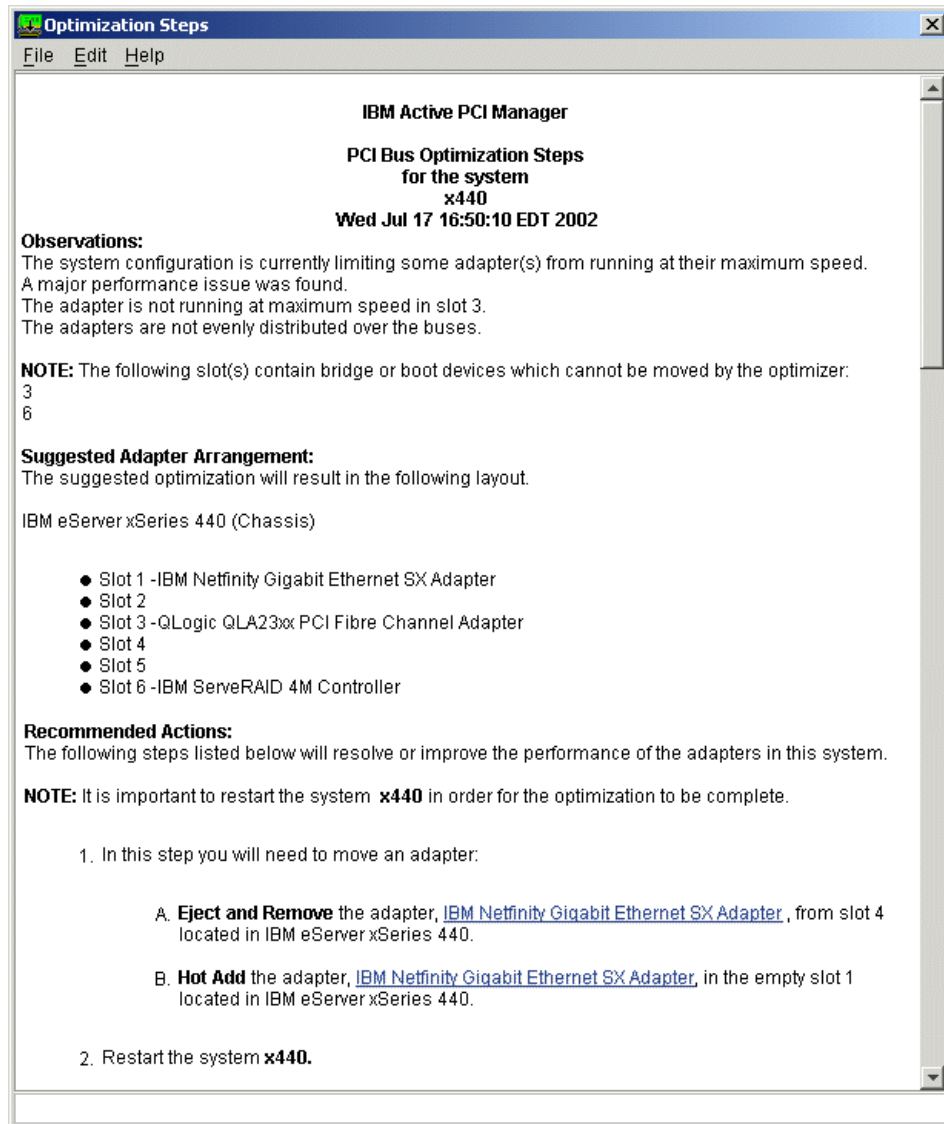

Figure 5-17 Performance analysis
To analyze the adapter configuration, click **Tools -> Analyze**. Once the analysis is complete, the Optimization Steps window appears, as shown in Figure 5-17 on page 146. It includes three sections:
Tip: The two links in Figure 5-17 merely show you which slot to insert the adapter into or remove the adapter from.
9. Back at the Optimization Steps window, shown in Figure 5-17 on page 146, click the link to hot add the adapter.